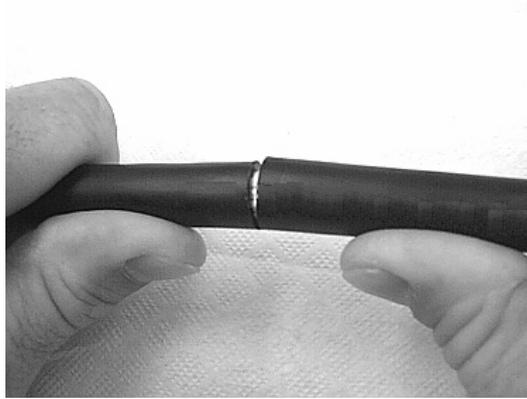

Figure 3 - Separate the cable sheath.
4.3 Gently flex the cable at the ring cut to separate the outer sheath (Figure 3). Be careful not to violate the minimum bend radius.